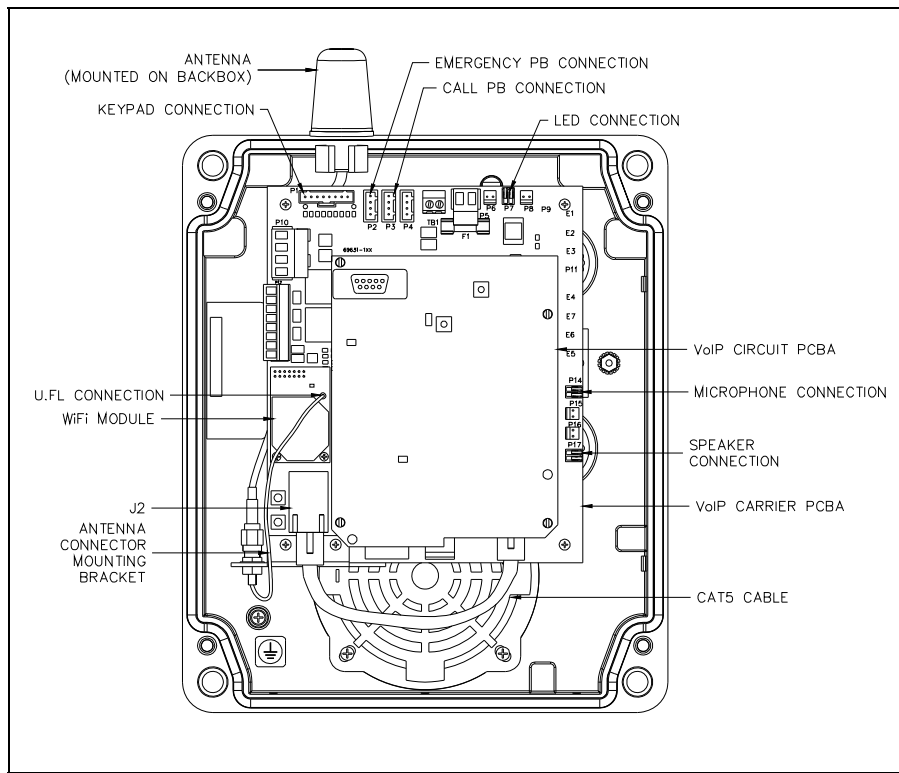

Figure 7. Models 393AL-800A and 394AL-802A
2. For Models 393AL-800A and 394AL-802A, gently pull the front cover away from the back box. Disconnect the antenna cable from the antenna connection mounted on the PCBA. See Figure 7.
4. Disconnect the microphone, speaker, LED indicator, and push-button switch cables from the PCBA. **NOTE:** For Model 394AL-802, there will also be a second push-button switch connection and a keypad cable connection. Record the location of each connection for later reconnection. See Figure 7.
1. Align the holes in the four corners of the new PCBA with the standoffs in the telephone, maintaining proper orientation. See Figure 7. Unplug the Cat5 cable from the J2 connector on the carrier PCBA.